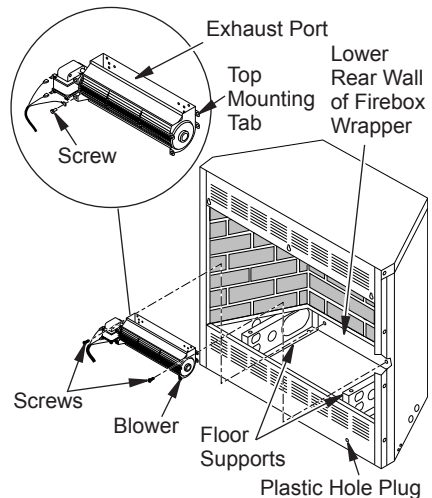

Figure 2 - Mounting Blower to Firebox
- Attach green ground wire from power cord to blower housing using screw provided (see Figure 2). Tighten screws securely.
- Place the blower against lower rear wall of firebox wrapper with the exhaust port directed upward. Align the holes in top mounting tabs of blower with holes in wall of wrapper (see Figure 2). Using 2 screws provided, mount blower and tighten screws securely.
- Locate the plastic hole plug installed in the 3/8" diameter opening in the lower right side of the firebox front panel (see Figure 2). Remove the plastic plug and discard.